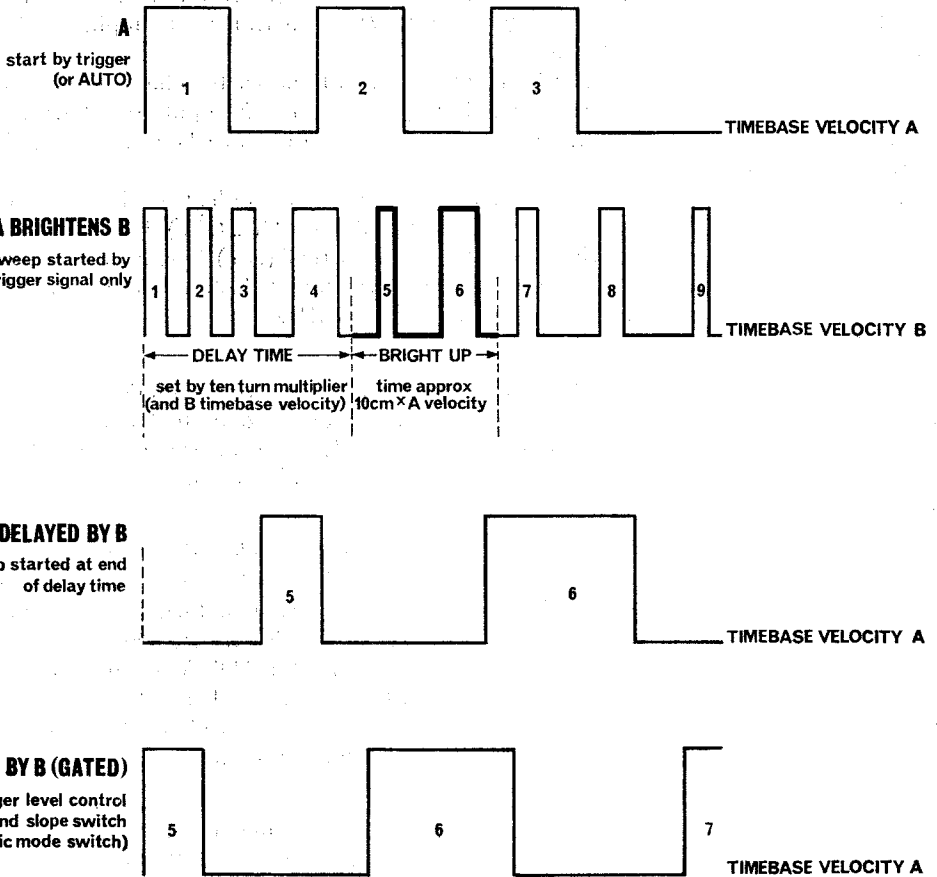

Fig. 15 Timebase modes
44. 'A' brightens 'B' mode. In this mode the timebase velocity is controlled by the B time/cm control which gives a decade sequence of velocities from 1 μ S/cm to 10mS/cm in five steps with an accuracy of $\pm 3\%$. The sweep is started by a trigger signal, the Auto position being inoperative. The trigger source, coupling and slope controls are set to trigger the B timebase. Part of the trace will be displayed 'brightened' (see figure 15). The width of this bright-up is controlled by the A timebase velocity and its position along the trace by the delay multiplier control. When these controls have been adjusted so that the required part of the waveform has been brightened up the timebase mode switch can be turned to the A delayed by B position (A DEL BY B).